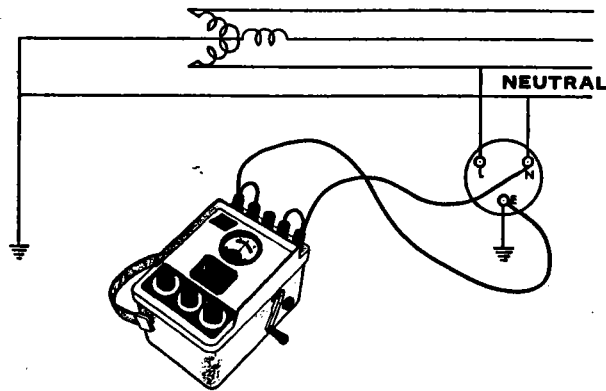

Figure 3-8. Connections for Testing a Neutral-Earth Loop.
a. **TESTING A NEUTRAL-EARTH LOOP.** To test a neutral-earth loop, connect the earth tester as illustrated in Figure 3-8.